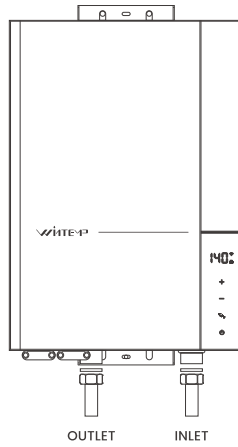

Fig 4
Step 3: Connect the external water supply pipe (Fig 4).